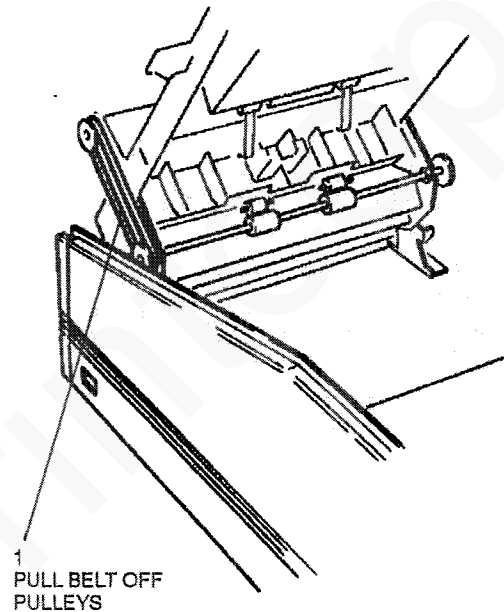

Figure 1. Exit roller belt removal
3. (Figure 1) Remove the exit roller belt.